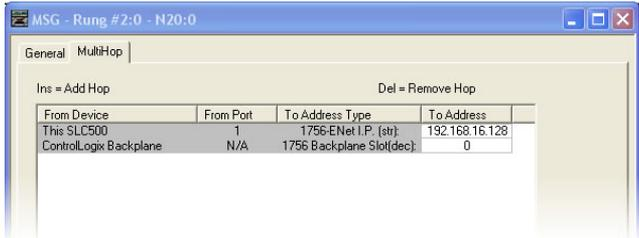

Figure 119: MSG Configuration, "MultiHop" Tab
- e) Under the "MultiHop" tab settings, set the "To Address" in the first row to the inverter's IP address, and the "To Address" in the second row to 0. Refer to Figure 119.